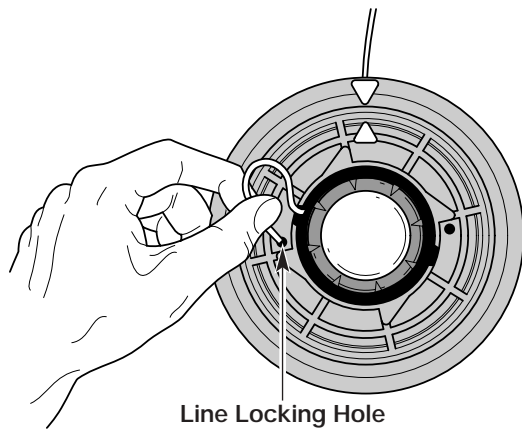

Fig. 20
5. Insert the line into the locking hole (Fig. 20). Do not push the line more than a 1/2 inch (12.7 mm) into the line locking hole. The line will form a small loop (Fig. 20) when it is inserted correctly.